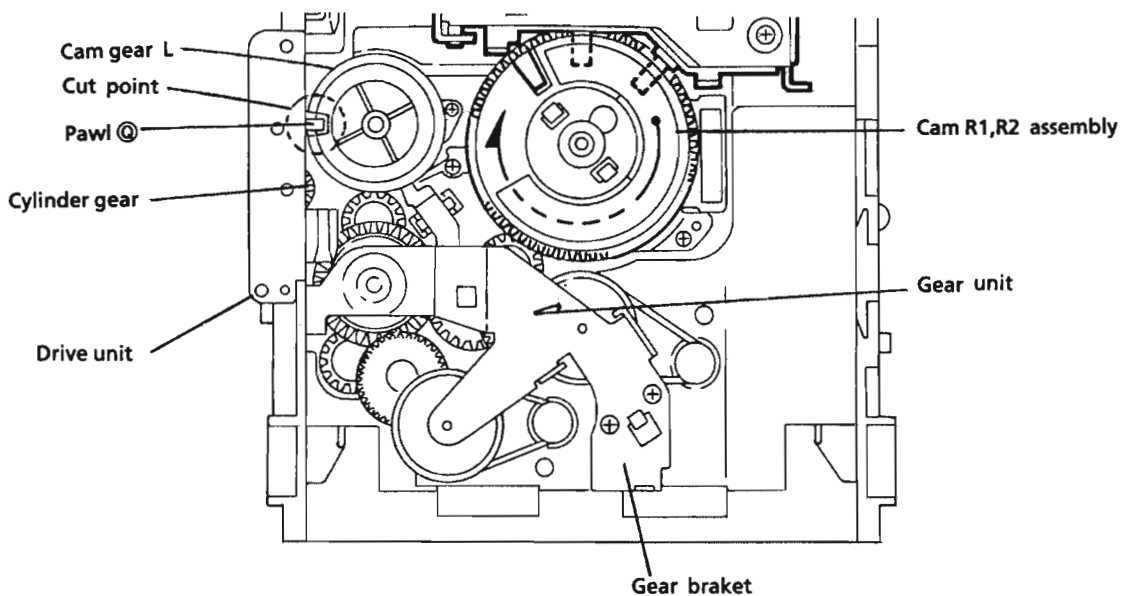

Fig. 42
[NOTE] Set the drive unit's pawl ④ so that it is positioned as shown in Fig. 42.